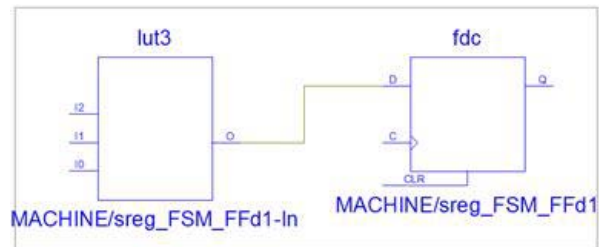

Figure 7-6: **New Schematic**
3. Click the New Schematic with Selected Objects button to start a new schematic. The new schematic appears as shown in Figure 7-6. You can continue to further expand as described in earlier lab segments.